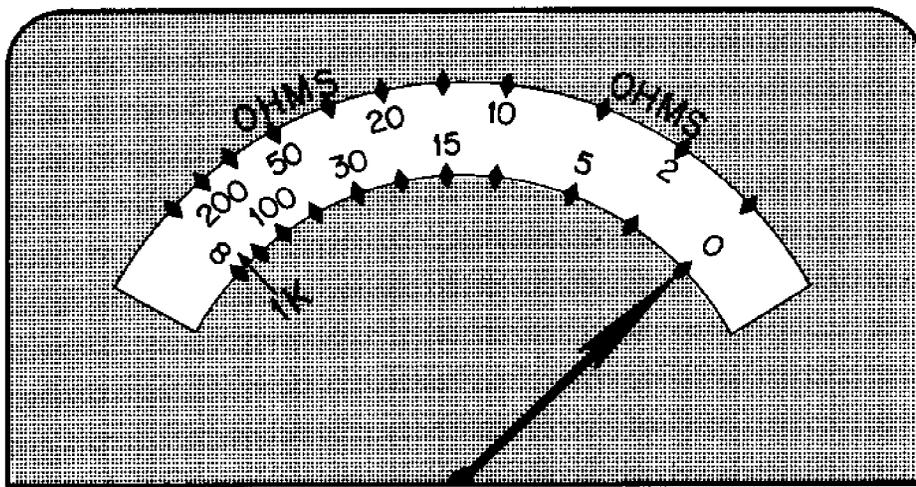

Figure 3.—The multimeter is now switched into its ohmmeter function.
3. Touch the probes together. Since they make an excellent electrical connection, the resistance should read zero (figure 3). If it does not, adjust the *zero adjust knob* until it does. When you separate the two leads, you break the electrical connection, and the ohmmeter reading should be  $\infty$  (a symbol meaning infinity). When there is no electrical connection between the ohmmeter leads, the resistance is effectively infinite.